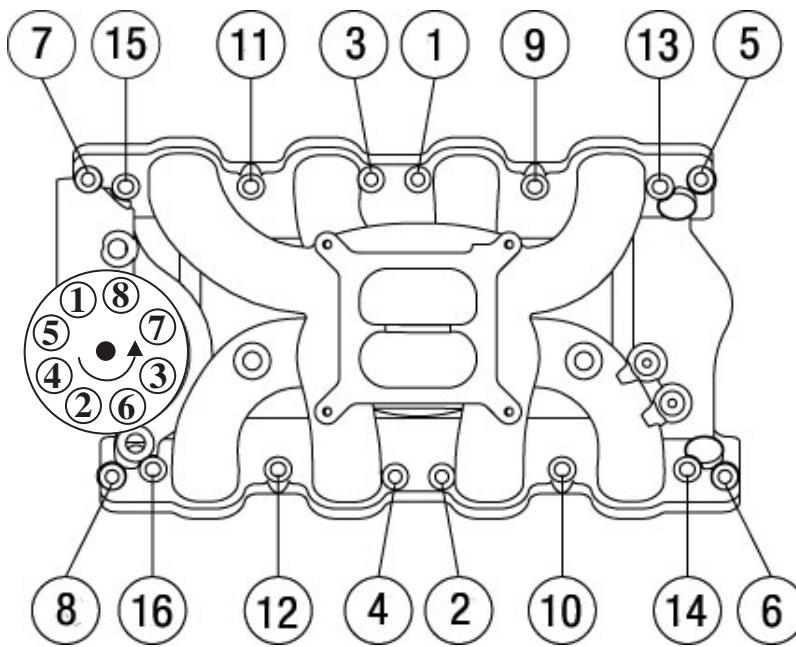

Figure 1 - 351C Ford Torque Sequence
- **MOUNTING HARDWARE:** These manifolds require a total of sixteen (16) intake manifold bolts to be properly secured. You will need eight (8) bolts that are 3/8"-16 and 1-3/4" long, and eight (8) bolts that are 5/16"-16 and 2" long. All sixteen (16) bolts will require chamfered hardened steel washers between the manifold and the head of the bolt. The longer bolts will thread through the vertical bosses, while the shorter bolts will mount perpendicular to the flange. See **Figure 1** for the proper torque sequence.
5. Install the intake manifold and hold-down bolts. The eight (8) $\frac{5}{16}$ " bolts will be installed in the vertical bosses (1-8 of the torque sequence) and should only be torqued to 10 ft/lbs at this time. The eight (8) $\frac{3}{8}$ " bolts will now be installed in the flange holes (9-16 of the torque sequence) and tightened to 15 ft/lbs. Now tighten the vertical $\frac{5}{16}$ " bolts to 20 ft/lbs in sequence, and then the $\frac{3}{8}$ " flange bolts to 30 ft/lbs, once again following the torque sequence shown in Figure 1.